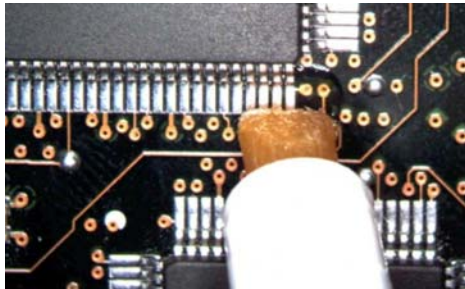

Figure 41 Applying Flux
- 3 Apply flux to your target leads as shown in **Figure 41**.